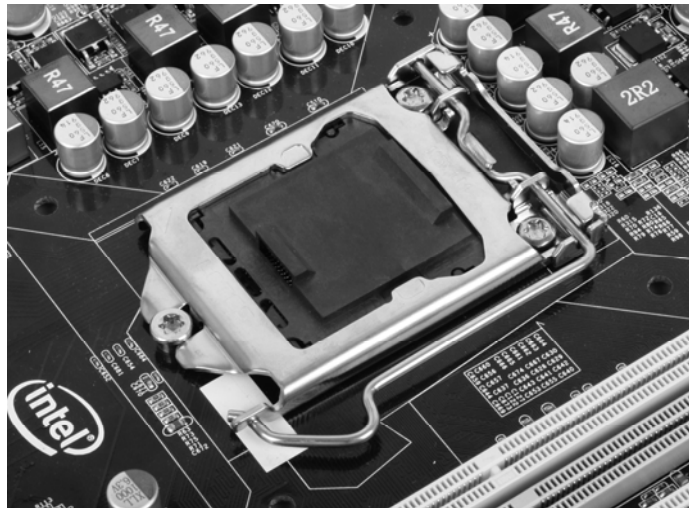

Fig 1
1.1 Find CPU Socket on the mother board, as shown in Fig 1